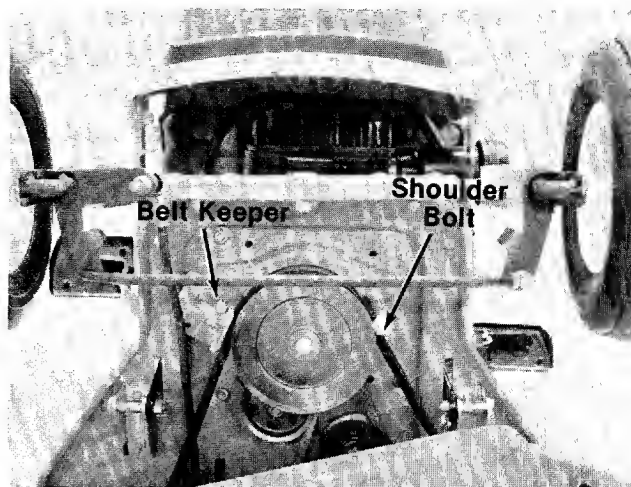

FIGURE 24.
2. Remove the belt keeper and shoulder bolt on the engine pulley. See figure 24.